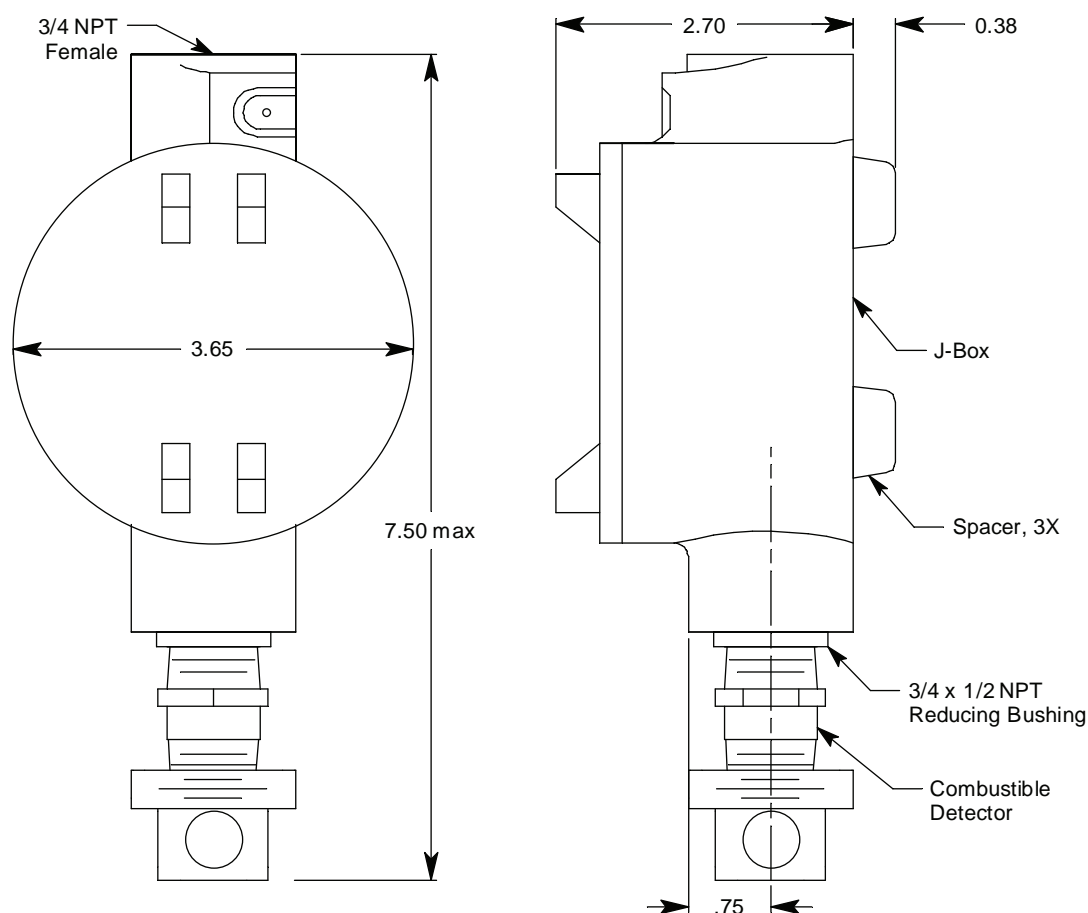

Figure 2: Mounting the Combustible Gas Detector
2. At the mounting site you select, hang or mount the junction box with the detector facing down (see Figure 2).